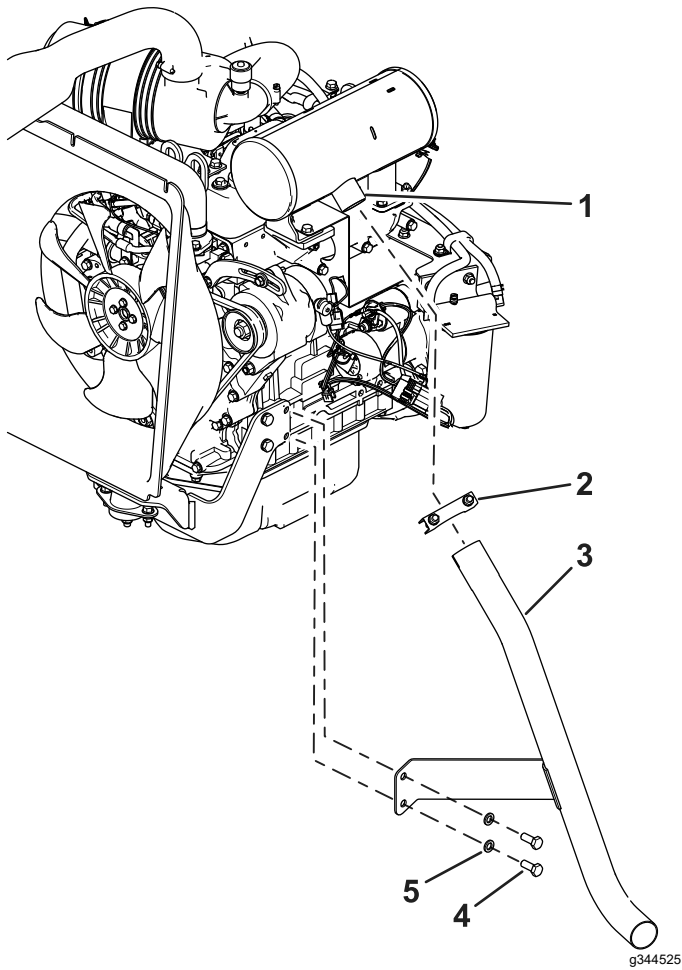

Figure 10
- Loosen the clamp at the muffler (Figure 10).
- Remove the engine bolts and washers from the existing exhaust pipe support (Figure 10) and remove the exhaust pipe.